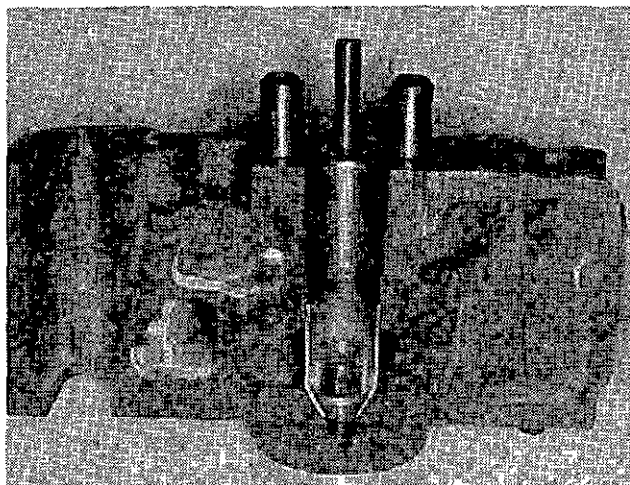

Fig. 2-5 (N10278). Cross-Section Of The ST-1179 Injector Sleeve Holding Tool.
1. Install the Part No. ST-1179 Injector Sleeve Holding Tool, or an injector that has been discarded into the injector sleeve, Fig. 2-5.